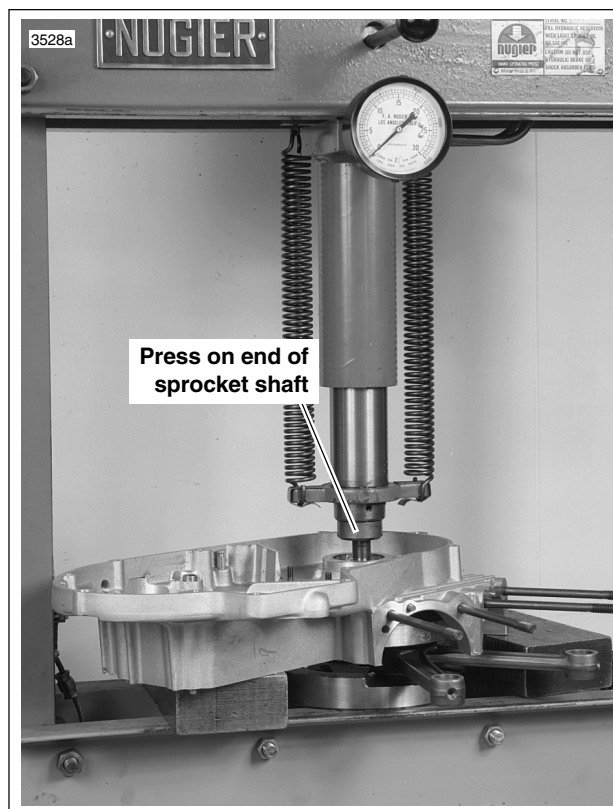

Figure 3-74. Pressing Flywheel from Crankcase
10. See Figure 3-74. Mount the left crankcase half and flywheel assembly on a press table, supporting crankcase on parallel bars. Press on end of sprocket shaft with arbor press until flywheel assembly is free from crankcase half. Do not drive flywheel assembly from crankcase half as flywheels may be knocked out of alignment.
See Figure 3-74. If it is necessary to remove either the pinion shaft bearing (11) or sprocket shaft bearing (4 and 9), proceed as follows: